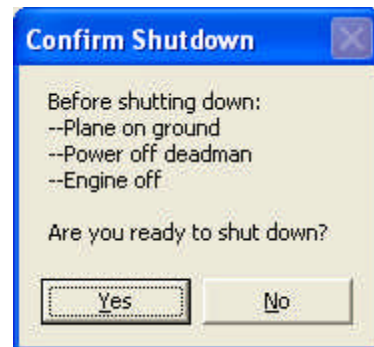

Figure 31. Confirm shutdown
- A Confirm Shutdown message box will pop up (Figure 31).